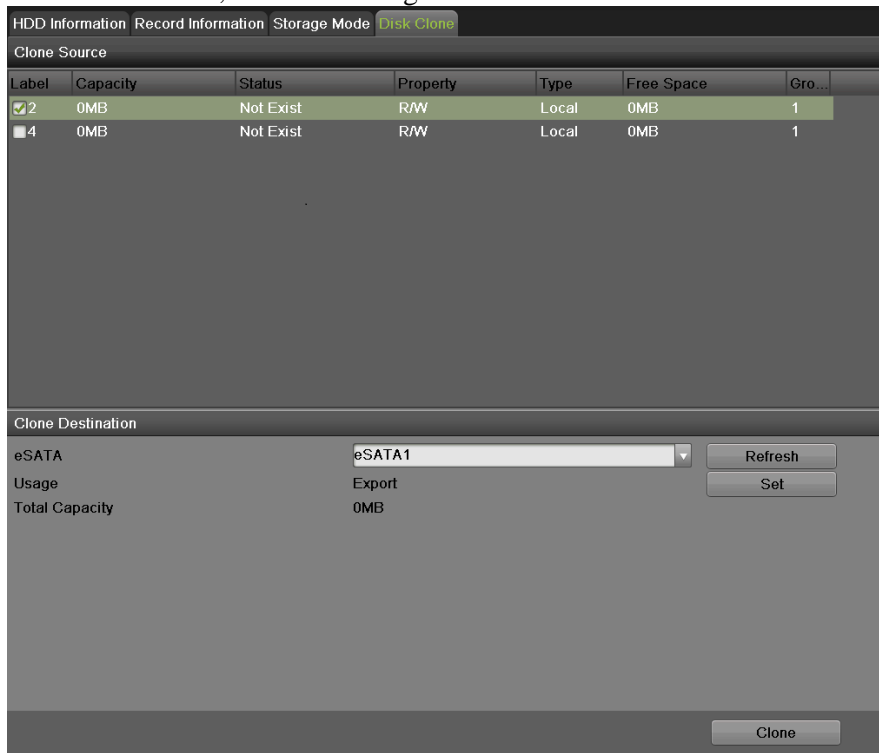

Figure 158 Local HDD Settings
2. Select the Disk Clone tab, as shown in Figure 158.